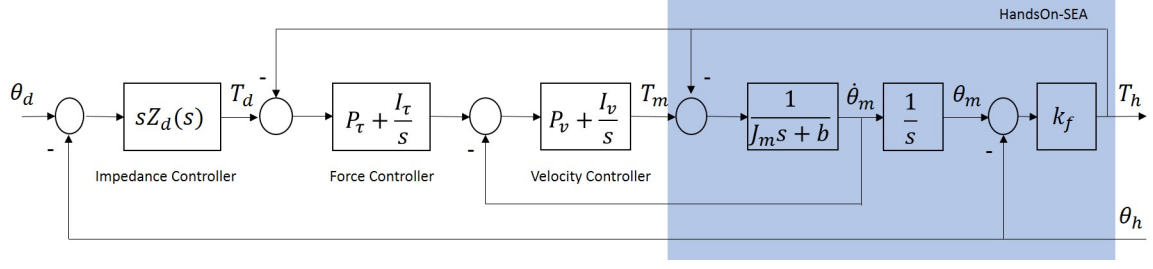

Figure 3: Impedance control architecture
This module is designed to introduce the cascaded controller architecture for SEA and to evaluate the force tracking performance of the device under cascaded control. The cascaded control architecture for SEA is depicted in Figure 3. This controller consists of an inner velocity control loop, an intermediate force control loop and an outer impedance control loop.
1. Determine the time domain equation corresponding to the closed loop system in Figure 3.